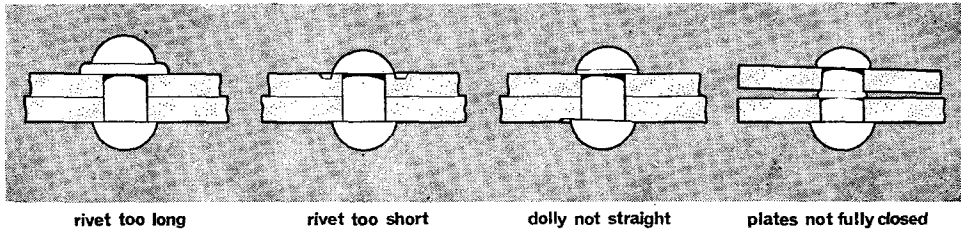

Fig. 10 Common riveting faults
21. **Riveting faults.** Some of the more common faults and their causes are shown in Fig. 10. If a rivet has to be removed, file a flat on the pre-formed head, centre pop and drill almost through the head using a drill of the same diameter as the rivet shank. Chip off the drilled head using a sharp chisel and drive out the rivet with a parallel pin punch.